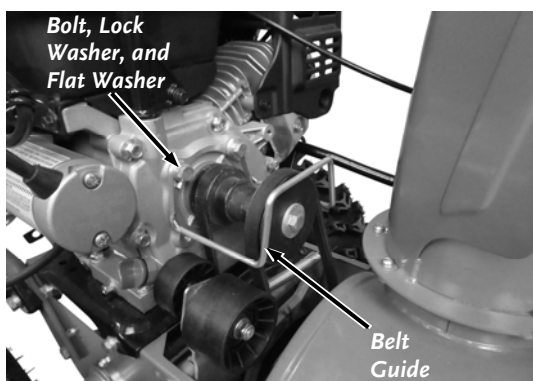

Figure 55
2. Remove the two Bolts, Lock Washers and Flat Washers that secure the Belt Guide to the Engine using a 13mm Wrench and remove the Belt Guide (**Figure 55**).